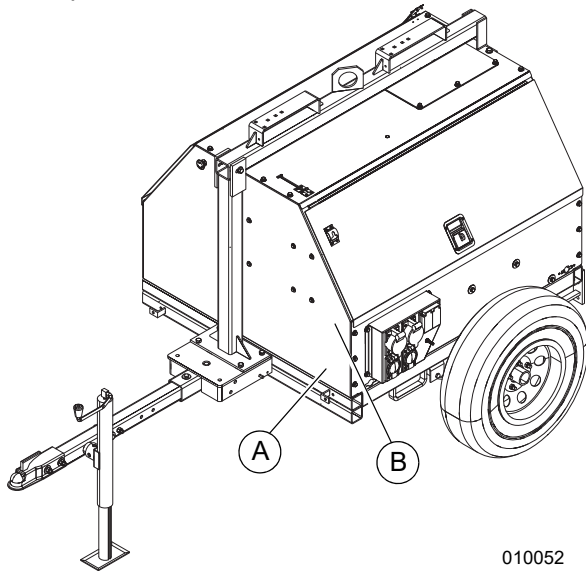

Figure 2-5. Unit and Serial Number Locations
See **Figure 2-5** to locate the unit ID tag (A) and Vehicle Identification Number (VIN) tag (B). Important information, such as the unit model number, serial number, VIN and tire loading information is found on these tags. Record the information from these tags so it is available if the tags are lost or damaged. When ordering parts or requesting assistance, you may be asked to provide this information.